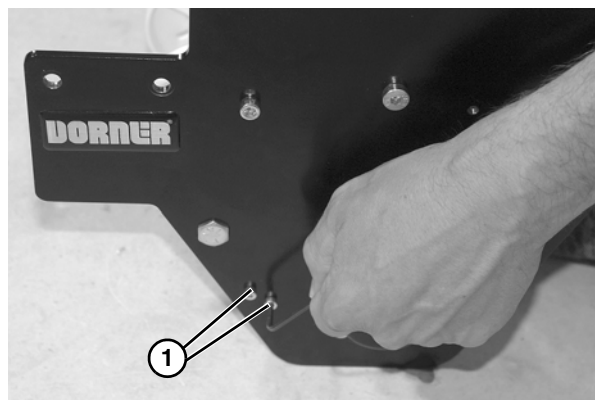

Figure 49
5. Remove two socket head screws (Figure 49, item 1) on both sides of the conveyor.